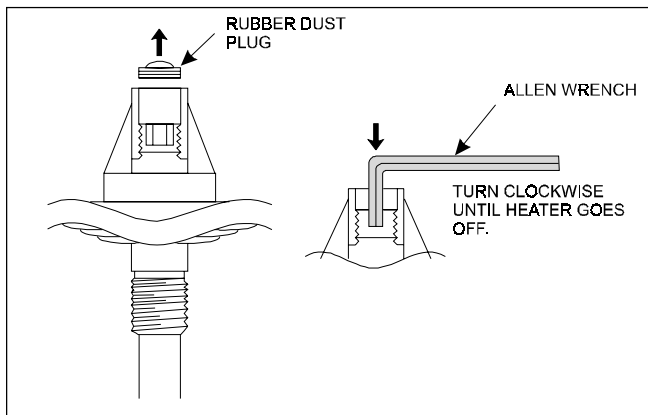

Figure 19. Pressure switch adjustment.
- Turn rotary switch (LD) or rocker switch (LG) to ON. Heater should start.
- Use a 7/32 inch (5.55 mm) Allen wrench to turn the adjustment screw very slowly clockwise until the heater goes off (see Figure 19).
- b. The system's water flow exceeds 125 GPM (474 LPM), and requires a manual bypass valve for proper operation (see Figure 19).